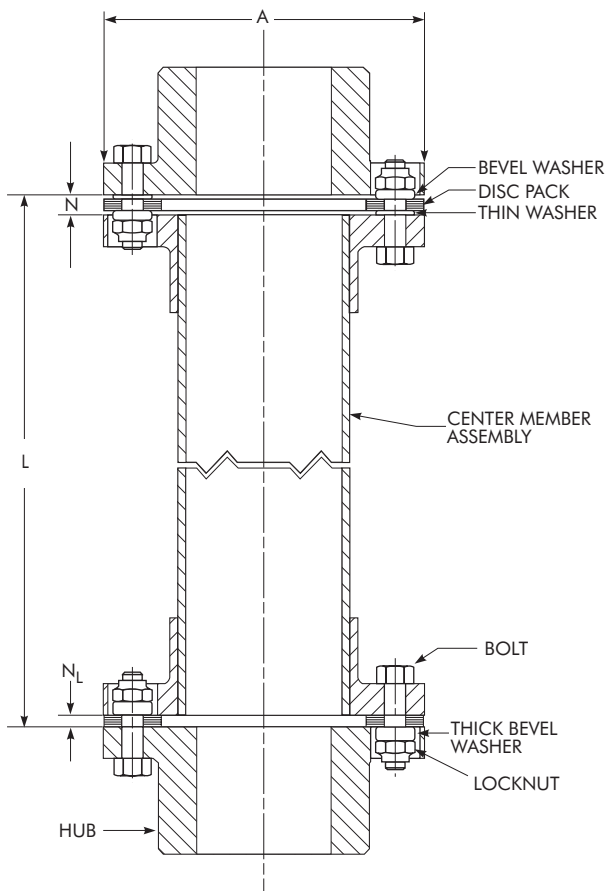

Figure 1
As a guide maximum and minimum values for dimension “N” are given. These dimensions are suggested for initial installation. Additional capacity is available to compensate for thermal and structural movement. Maximum axial capacity values for these couplings are also given. See Table 1 and Figure 1.
- C. Now install the disc pack into the top flex joint. See Figure 1. Slide the disc pack in between the two flanges lining up one hole in the pack with a bolt hole in the driver hub flange. Drop a bolt down through the flange bolt hole in the driver hub, washer (on Size 262 and larger); disc pack, center member clearance hole, another washer, and secure with a locknut. **The radius side of the washer should always be against the disc pack.**
- D. Now install the disc pack into the bottom flex joint. It may be necessary to tighten up a little on the two “C” clamps to give enough clearance between the bottom two flanges to install the disc pack. Rotate the driven hub or center member so that the hub flange bolt holes line up with the center member flange clearance holes. See Figure 1. Slide the disc pack in between the two flanges, lining up one hole in the pack with a bolt hole in the center member flange. Drop a bolt down through the bolt hole in the center member flange, disc pack, hub flange clearance hole, thick washer (the radius side of the washer should always be against the disc pack), and secure with a locknut. Remove the alignment bolt from the disc pack if used. Rotate the disc pack around until the rest of the holes line up with the center member flange bolt holes. Repeat above for the remaining center member to disc pack bolts. Slightly tighten the locknuts. Do not fully tighten the locknuts at this time.